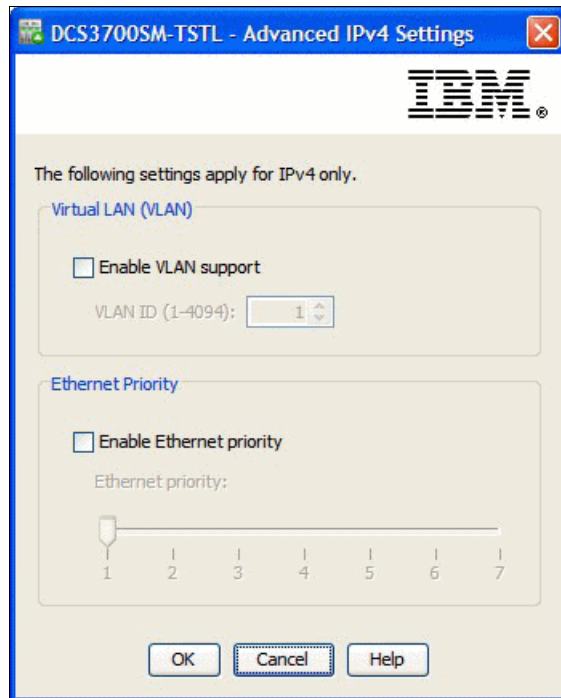

Figure 12-13 Advanced IPv4 Settings
5. In the Advanced IPv4 Settings window (Figure 12-13), you can enable native VLAN support and specify a VLAN ID that is used by the selected port. In addition, the Ethernet priority can be set here. Similar configurations are available for the IPv6 settings.